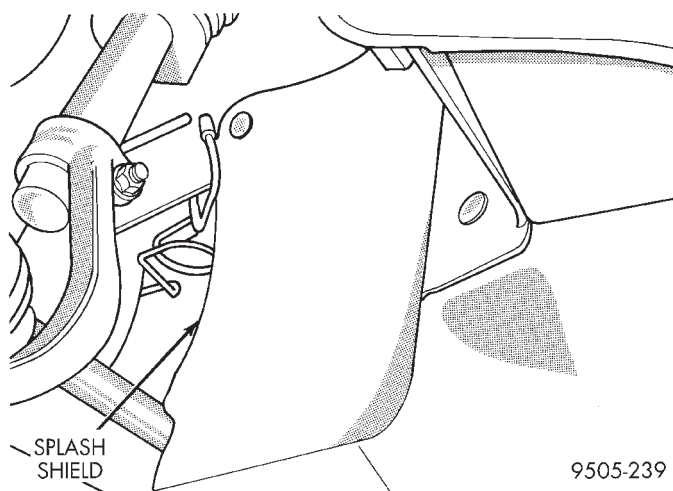

Fig. 31 Accessory Drive Splash Shield
(1) Remove battery cable from (-) negative post on battery and isolate cable.
(2) Siphon as much power steering fluid as possible out of the remote power steering fluid reservoir.
(3) Remove the power steering fluid supply hose from the power steering fluid reservoir. Fluid supply hose will be removed with the power steering pump.
(4) Raise vehicle.
(5) Remove right front tire from vehicle.
(6) Remove accessory drive splash shield (Fig. 31) from the right front wheel well.
(12) Install accessory drive splash shield in right front inner fender (Fig. 31).
(13) Install tire back on vehicle. Tighten the wheel lug nuts in proper sequence until all lug nuts are torqued to half specification. Then repeat tightening sequence to full specified torque of 129 N·m (95 ft. lbs.).
(14) Lower vehicle.